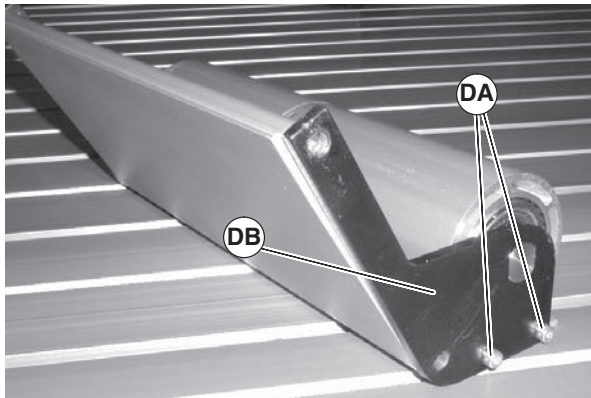

Figure 91
4. Remove screws (Figure 91, item DA) and idler guide side plate (DB).